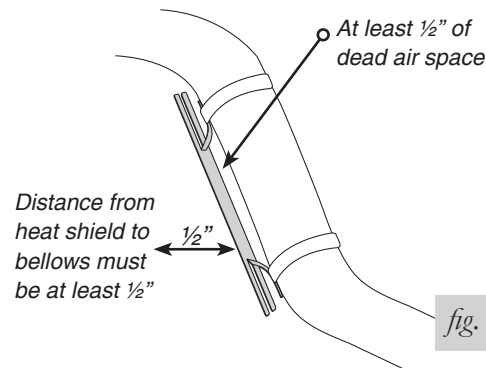

fig. 9
2. Attach the heat shield (N) to the exhaust pipe using the provided clamps (O). See Fig. 9. Bend the heat shield for maximum clearance to the air spring.